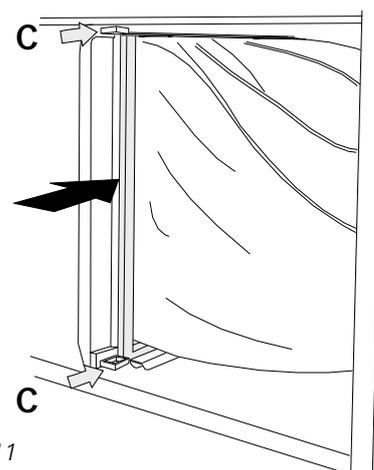

Fig. 11
- Press the two blue handles (C in Fig. 11) at the upper and lower edges of the filter mounting bracket inward, to close the off-centre actuated list.